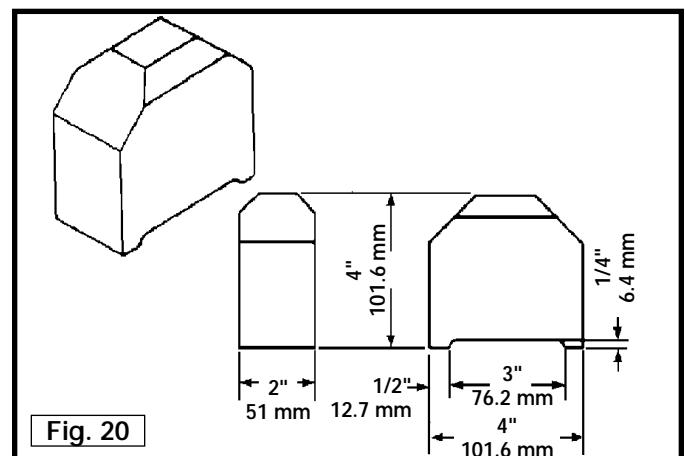

Fig. 20
1. To check and adjust the outfeed roller, make a gauge block of hardwood. Follow the dimensions in Fig. 20.